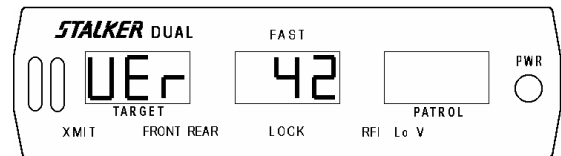
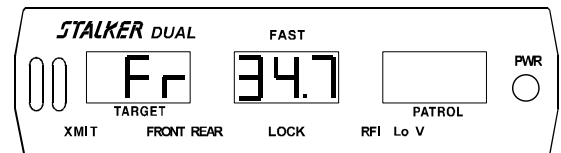
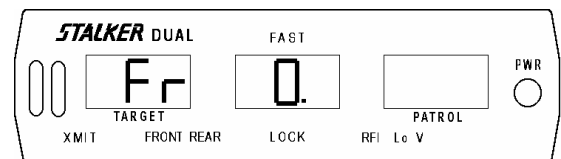

Fig 27
Fig 28
Fig 29
While all segments are illuminated following power up (Fig 39) press the **SELF TEST** key to display the installed software version. Figure 27 indicates that software version 42 is installed. Check with the factory for the availability of an updated software version, if desired.
Immediately after the software version is shown (Fig 27), the transmitter frequency is displayed. Figure 28 indicates a transmitter frequency of 34.7 GHz. Ka-Band. Figure 29 indicates a transmitter frequency of 0, meaning no antenna is connected.
4. The Computed speed will be computed and shown in the patrol window. Fig 28 is an example of a 440 yard measurement zone, a 11.9 second measurement interval, and a 75 mph computed speed.